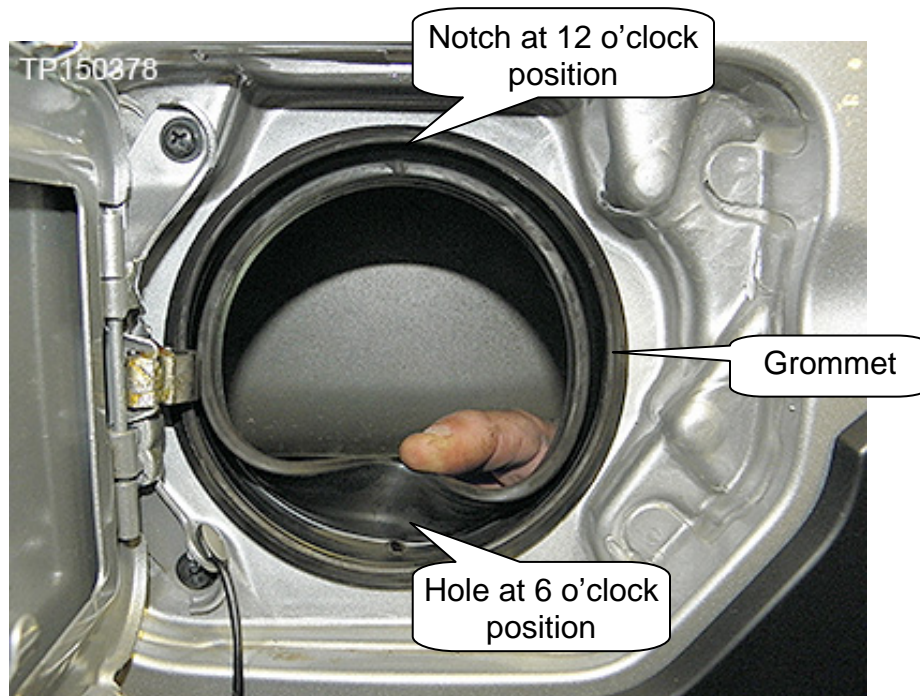

Figure 2
- Make sure the grommet is positioned as shown in Figure 2.